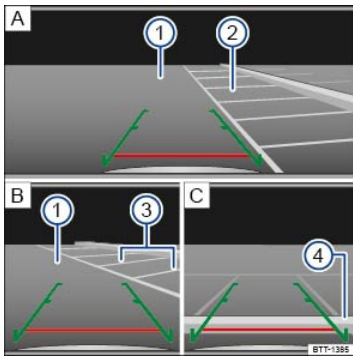

Fig. 123 On the screen: Orientation lines for the parking space behind the vehicle.
Key to ⇒ Fig. 123 :
- Position the vehicle in front of the parking space ⇒ *Fig. 123* .
- Shift into reverse (R).